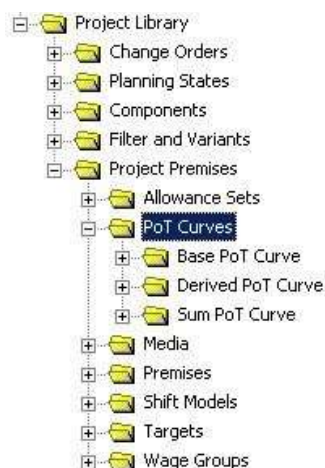

Figure 18: Overview of the Three PoT Curves
- 1) Select one of the three curves (base, derived, or sum PoT curve) from the project library. *Please refer to the Figure 18.*